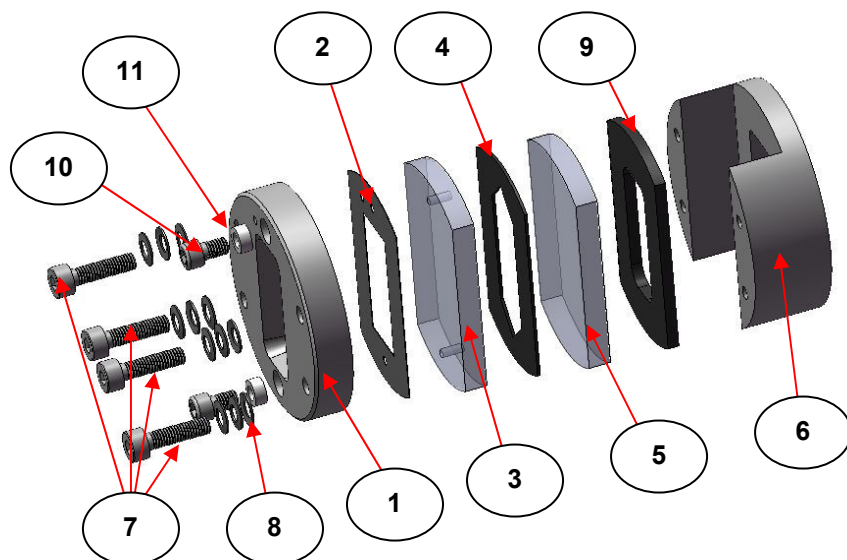

Fig 3. “Exploded” View of GS20500 and GS20510 Liquid Sample Cells for Their Components
The **GS20500 Series static** cells are fully **sealed** liquid cell assemblies, whereby the front plate (**1**), top gasket (**2** - in lead material), front window (**3** - with drilled holes), pathlength spacer (**4** - in lead material) and rear window (**5** - undrilled) are all fused/sealed together from an amalgamation process. (The components of the cell are seen as an exploded diagram from **Fig 3.**) These liquid cell components are held compressed within the body (**6**) of a sealed cell assembly by four **tamperproof** M3 x 12mm screw bolts (**7**) between the front plate (**1**) and the body (**6**), but fundamentally the amalgamation process will ensure that the cell components remain sealed together, such that they cannot be easily separated.
Using **Fig 3.** as an example to follow, the **GS20510 Series static** cells are **demountable** liquid cell assemblies, whereby the front plate (**1**), top gasket (**2** - in PTFE material), top window (**3** - with drilled holes), pathlength spacer (**4** - in Mylar™ or PTFE material) and lower window (**5** - undrilled) are all compressed together by **tightening** of the four M3 x 12mm cap head bolts (**7**) between the front plate (**1**) and the body (**6**).
In **Fig 3**, for an exploded view of the basic assembly of the Liquid Sample Cell types, on each of the four M3 x 12mm fixing bolts (7), whether they be tamperproof or cap head bolts, three “Belville” spring washers (8) are used to assist with the correct tightening and overall sealing for the components of the liquid cell assembly. These bolt and washer assemblies work in conjunction with the rear aluminium 2mm thick gasket/packing spacer (9), to allow for sufficient expansion or contraction of the components of the sealed or demountable cell assembly when used at temperatures other than ambient.
diagram from **Fig 3**, using your choice of window materials (**3** and **5**) and thickness of spacer (**4**).
For the static Liquid Sample Cells Series types only (for both sealed and demountable types), the front plate (1) has two M3 x 6mm filling cap head bolts (10) that fit into their own PTFE sealing washers (11). (See Fig 3.) To introduce a liquid sample into the sample cell cavity created from the windows and spacer pathlength construction, one of these M3 filling cap head bolts (10) is unscrewed/removed from the front plate (1) using an Allen key. (The PTFE washer (11) may also be removed when the bolt is removed.)